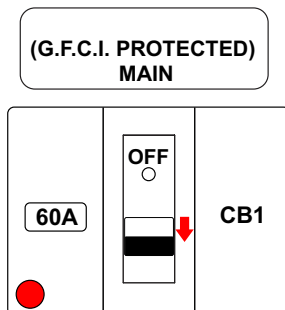

Figure 87. Circuit Breaker OFF (GFCI Test)
- Also verify that the main circuit breaker (Figure 87) switch trips to the **OFF** position.